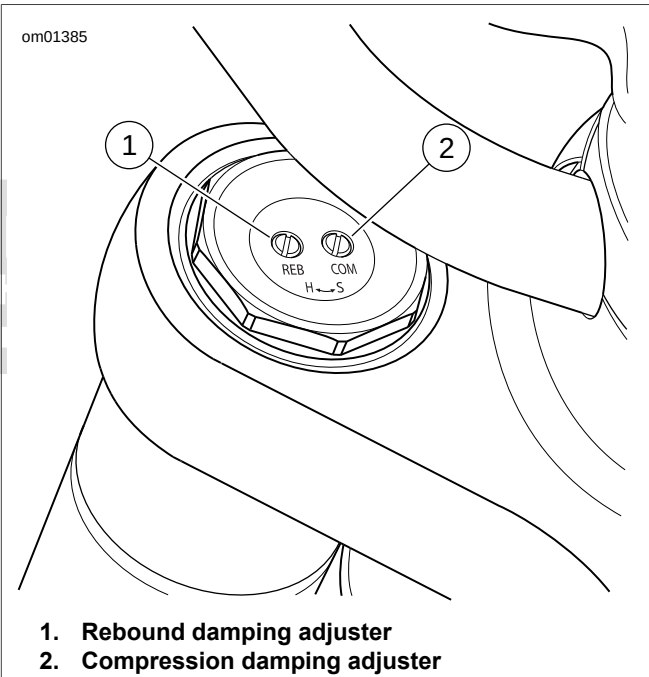

Figure 1-80. Fork Rebound and Compression Damping Adjusters: XR 1200X
1. See Figure 1-80. Turn the rebound damping adjuster (1) clockwise H (hard) until it stops. This is the maximum rebound setting.
1. See Figure 1-80. Turn the compression damping adjuster (2) clockwise H (hard) until it stops. This is the maximum compression setting.